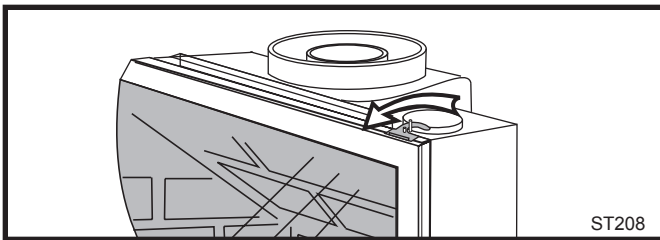

Fig. 76 Release the latches to release the glass frame.
1. Remove the Front, Glass Frame and Glass Panel. (Figs. 76 & 77) Remove the old gasket. Use a razor blade to separate the glass and gasket from the frame, and to clean the glass of any remaining cement or bits of gasket. Use a cold chisel if necessary.